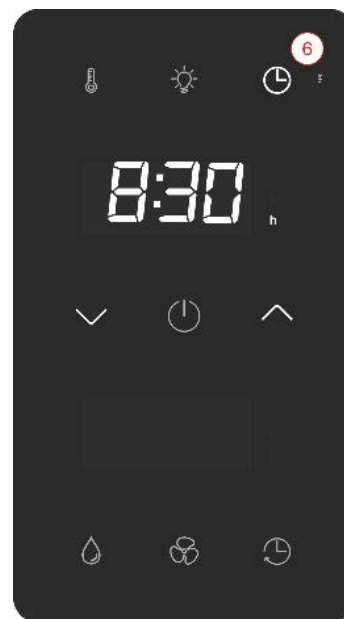

Fig. 14 Pre-set time button
3. To activate the pre-set time, press the "Pre-set time button" (Fig. 14/Item 6).